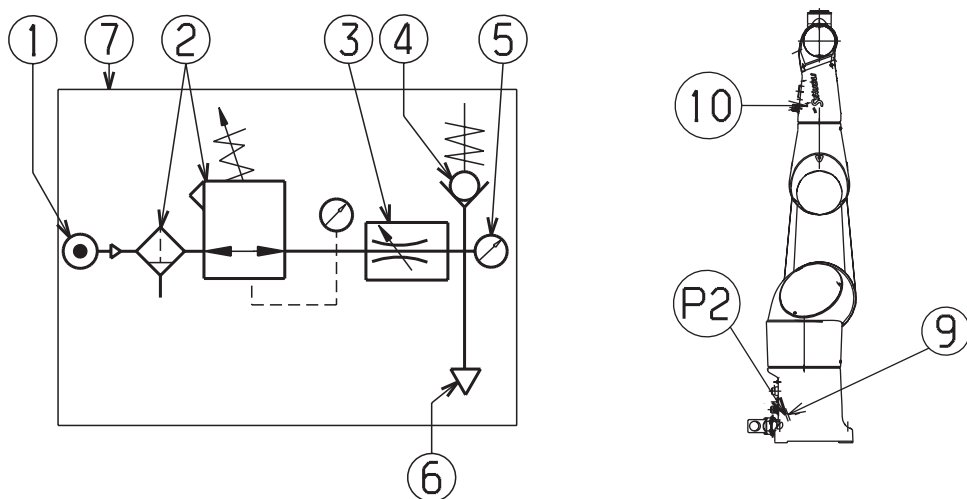

Figure 1.17
1.10.2. INSTALLATION (figures 1.17 and 1.18)
- If the hose (P2) between (9) and (10) is not used, cut the pipe (P2) at (9) and plug (P2) at (10).
- Attach the unit with 4 screws (Ø 6 max.) at item (8) (screws not supplied) to a rigid vertical wall in direction shown by arrow; the air inlet (1) being to the left of the regulator (2).
- Provide for air inlet at (1), this is a G1/4 tapped hole; the air pressure is 10 bar maximum. Before the pressure arrives at (1), make sure that the regulator (2) is completely screwed out and that the valve (3) is completely screwed in. Before pressurizing the arm, also make sure that the arm is correctly connected and correctly sealed (covers closed, plugs in hoisting ring tapped hole, pipe connected at (6) and at (9), etc.).